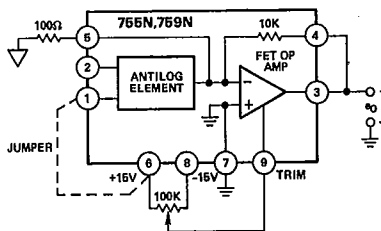

Figure 5. Trimming  $E_{OS}$  in Antilog Mode
**Offset Voltage ( $E_{OS}$ ) Adjustment** – Although offset voltage of the antilog circuit may be balanced by connecting it in the log mode, and using the technique described previously, it may be more advantageous to use the circuit of Figure 5. In this configuration, offset voltage is equal to  $e_{OUT}/100$ . Adjust for the desired null, using the 100k trim pot. After adjusting, turn power off, remove the external 100Ω resistor, and the jumper from Pin 1 to +15V. For 755P, 759P use the same procedure but connect Pin 1 to -15V.